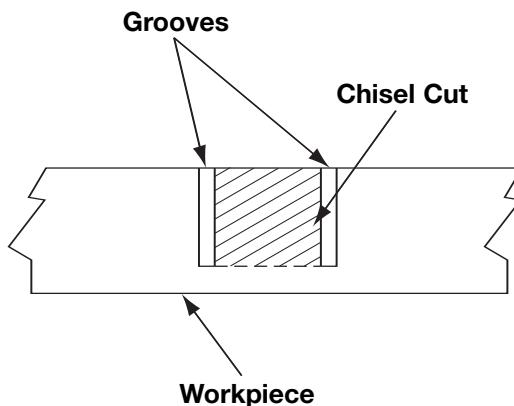

Figure 32. Rough Cut Groove
- Use a wood chisel or make multiple passes by sliding the wood over to one side to remove the material between the outside grooves (Figure 32).